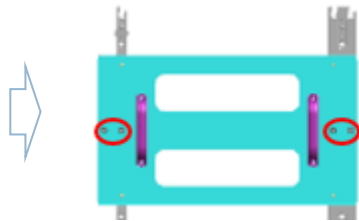

Fig2. Fix the Jig (Screw)
- ※ Second, Mount the ③ JIG inside the Bracket Hole and fasten up four(4) Screws [Fig.2]